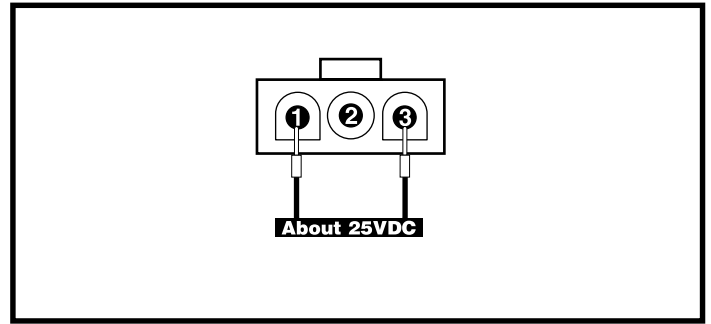
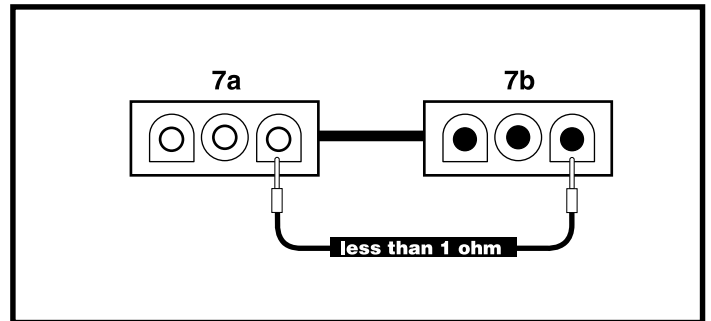

Figure 18. Connector 7b
Figure 19. Connectors 7a and 7b
28. Measure voltage across pin 1 and pin 3 on connector 7b. **See figure 18.**
- If your multimeter indicates total battery voltage (about 25VDC), then replace the onboard battery charger (6) and retest the system.
30. Measure resistance across pin 3 on connector 7a and pin 3 on connector 7b. **See figure 19.**
- If your multimeter indicates less than 1 ohm, then replace the charger/joystick interface harness (3) and retest the system.
31. Verify that the charger interface harness (7) is connected to the fuse (7c) and ammeter (7f) properly. **See diagram 2.**
- If your multimeter indicates less than 1 ohm, then replace the charger interface harness (7) and retest the system.